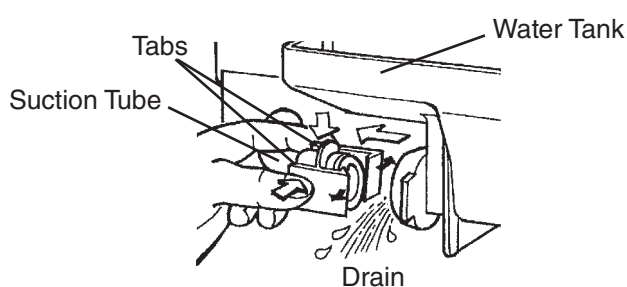

Fig. 34
3. Inside the storage bin, disconnect the suction tube by squeezing the tabs and pulling the tube clear. See Fig. 34. Allow the water tank to drain.